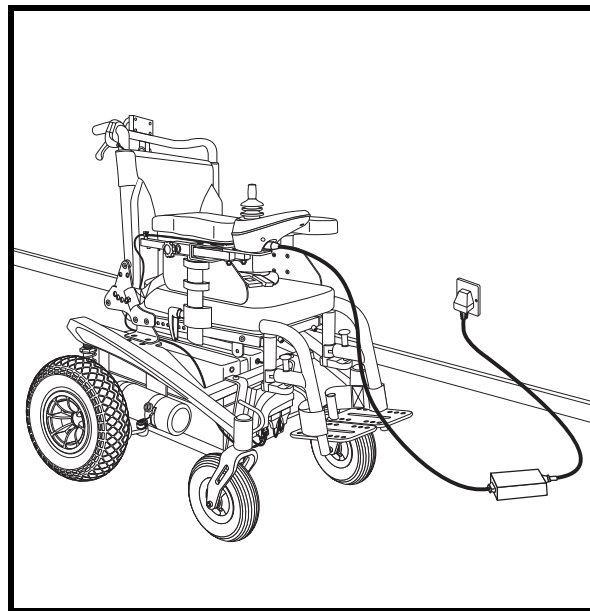

Figure 25. Battery Charging
3. Plug the off-board charger into the off-board charger/programming socket on the controller. **See figure 25.**